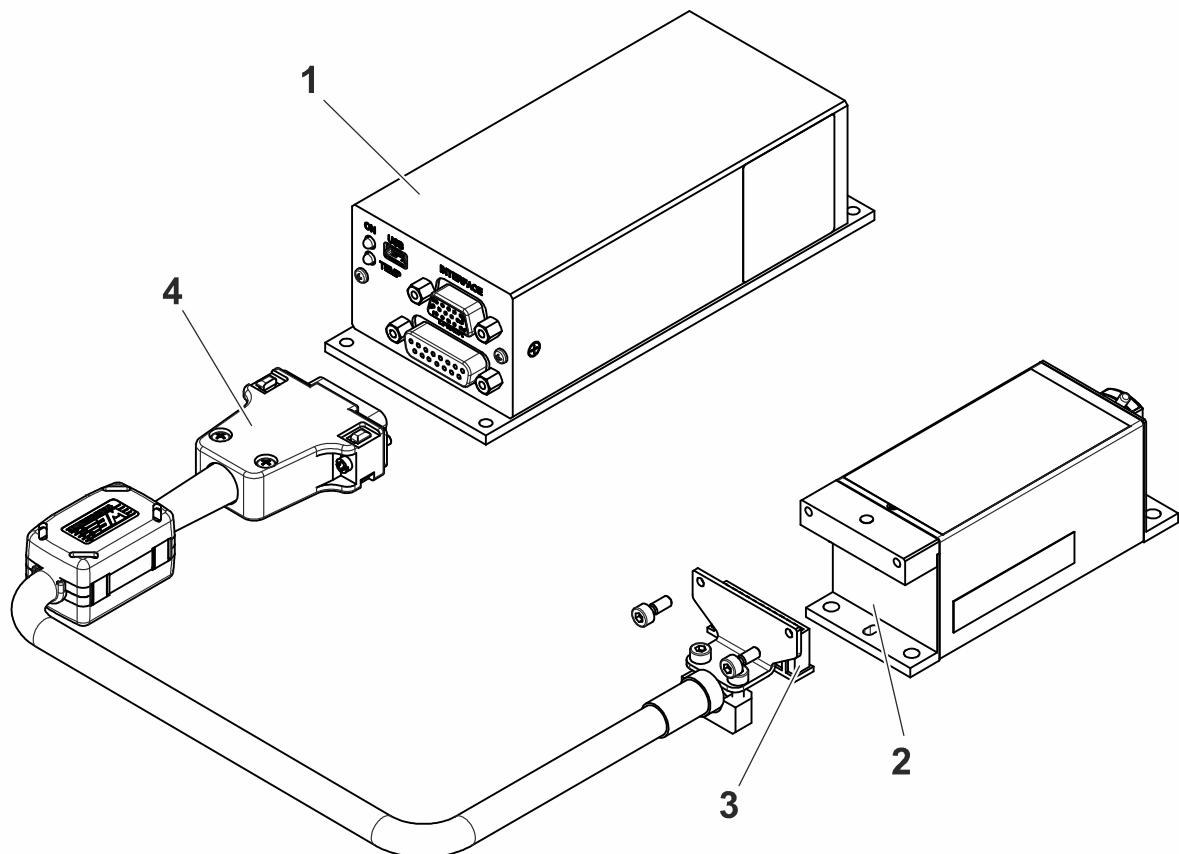

Fig. 12 Connecting DPSSL
- If not mounted connect the connecting cable with its 24-pin female connector (Fig. 12/3) to the male connector at the laser module (Fig. 12/2).
- Connect the other end of the connecting cable with its 15-pin SUB-D male connector (Fig. Fig. 12/4) to the Sub-D female connector **LASER** of the control unit (Fig. 12/1).